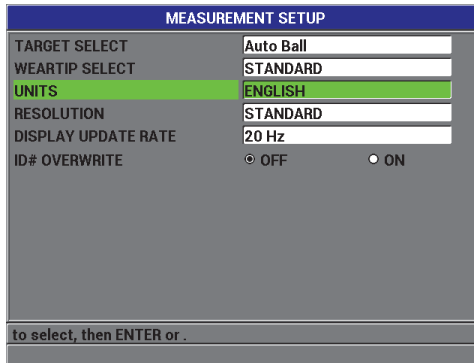

Figure 3-2 The **MEASUREMENT SETUP** screen — **UNITS**
3. In the **MEASUREMENT SETUP** screen (see Figure 3-2 on page 53), set **UNITS** to **ENGLISH** or **METRIC**.
3. In the **MEASUREMENT SETUP** screen (see Figure 3-2 on page 53), set the **DISPLAY UPDATE RATE** to the desired value: **4 Hz**, **8 Hz**, **16 Hz**, or **20 Hz**.
3. In the **MEASUREMENT SETUP** screen (see Figure 3-2 on page 53), set the **RESOLUTION** to the desired option: